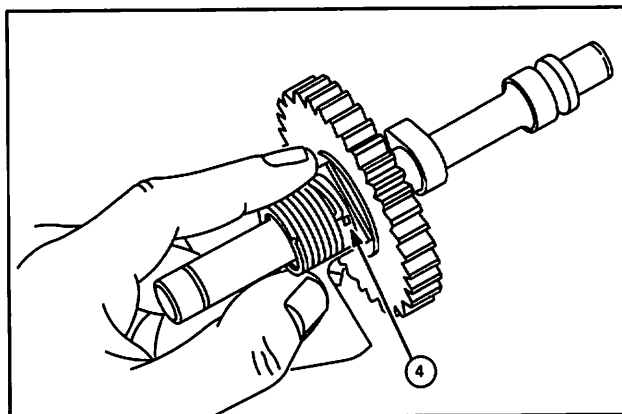

Fig. 58 – Assemble Clutch Spring
1. Assemble clutch spring as shown in Fig. 58.
2. Align hole in clutch sleeve (4) with tab or spring and slide on.